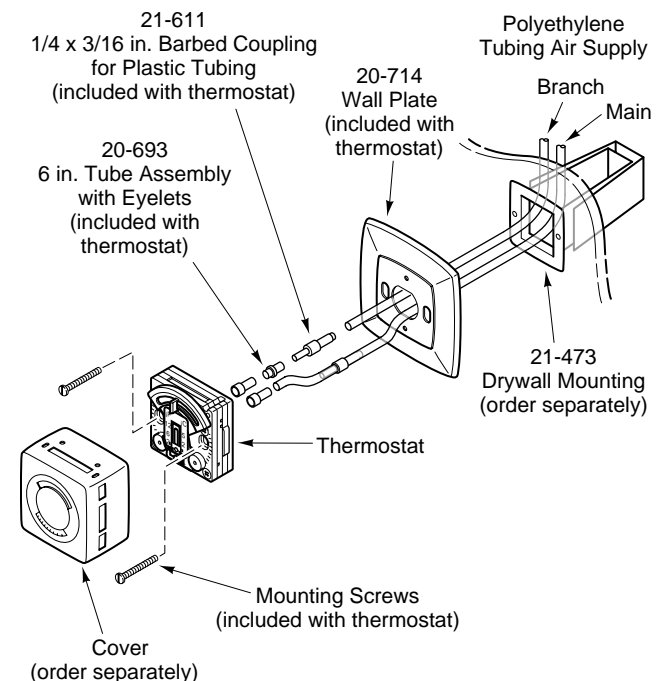

Figure-2 Flush Mounting of Thermostat, Using Drywall Mounting Bracket.
1. Mount the thermostat according to the applicable figure (Figure-2 through Figure-8). See Figure-10 for mounting dimensions.